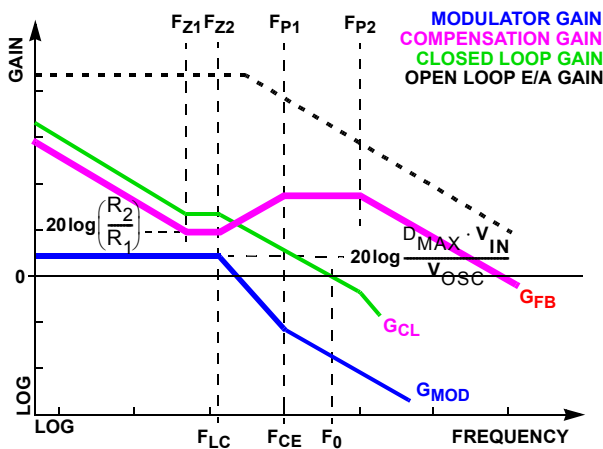

FIGURE 11. ASYMPTOTIC BODE PLOT OF CONVERTER GAIN
Figure 11 on page 11 shows an asymptotic plot of the DC/DC converter's gain vs frequency. The actual Modulator Gain has a high gain peak dependent on the quality factor (Q) of the output filter, which is not shown. Using the previously mentioned guidelines should yield a compensation gain similar to the curve plotted. The open loop error amplifier gain bounds the compensation gain. Check the compensation gain at  $F_{P2}$  against the capabilities of the error amplifier. The closed loop gain,  $G_{CL}$ , is constructed on the log-log graph of Figure 11 by adding the modulator gain,  $G_{MOD}$  (in dB), to the feedback compensation gain,  $G_{FB}$  (in dB). This is equivalent to multiplying the modulator transfer function and the compensation transfer function and then plotting the resulting gain.